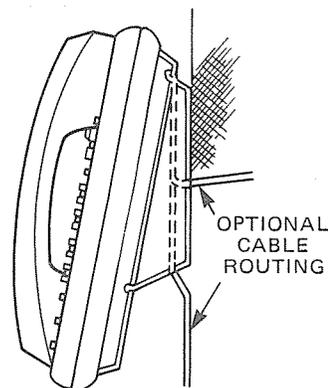

FIGURE 33—EKT WIRE ROUTING
09.17 Route the tail cord through the holes in the base and secure the EKT (Figure 33).